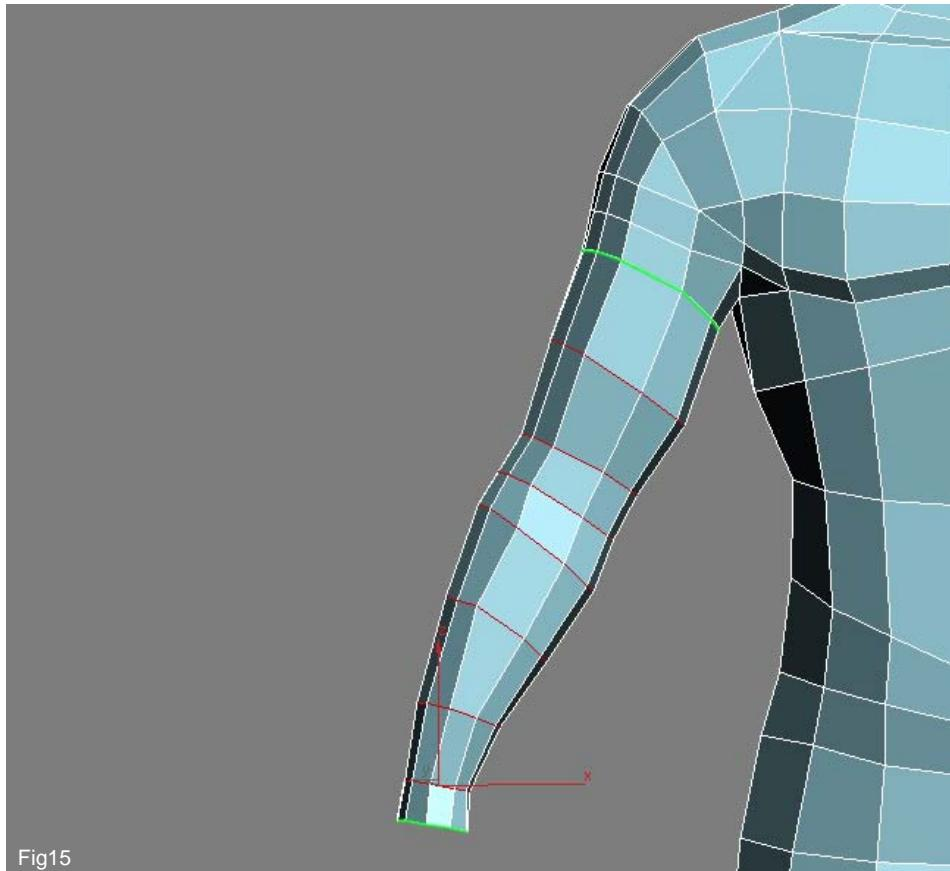

Fig15
15. Now that we have a start to the arm we can continue by shift dragging edge selections and transforming the verts until we get to the wrist as seen in Fig15. In this case I have added a further eight extrusions.